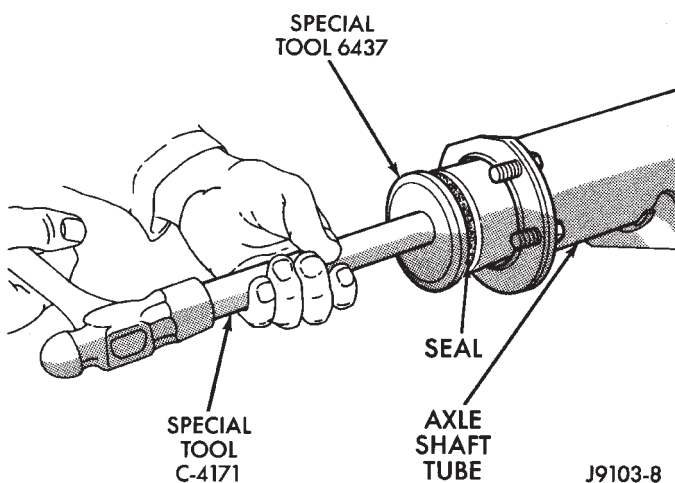

Fig. 26 Axle Shaft Seal Installation
(2) Install axle shaft bearing with Installer 6436 and Handle C-4171. Ensure that the part number on the bearing is against the installer.
(3) Install the new axle shaft seal with Installer 6437 and Handle C-4171 (Fig. 26).